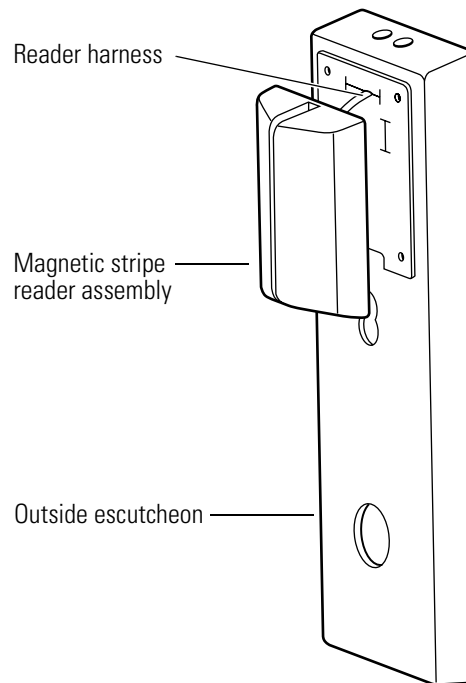

Figure 9.16 Removing the magnetic stripe reader assembly from the outside escutcheon
3. Remove the magnetic stripe reader assembly from the outside escutcheon, sliding the reader harness through the slot in the escutcheon. See Figure 9.16.